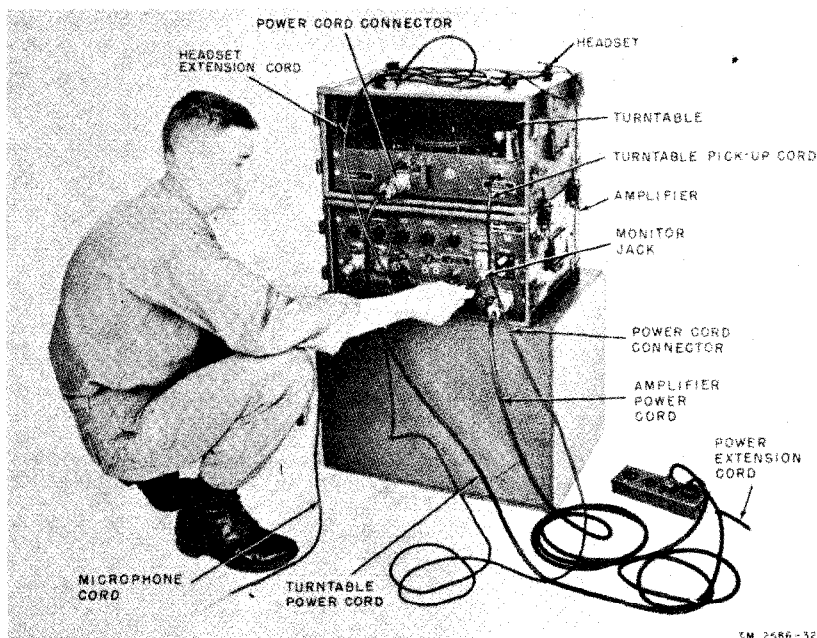

Figure 18. Amplifier and turntable mounted and connected for operation.
d. Connect the end of the microphone cord (or the microphone extension cord (fig. 8 if used)) into the jack on the amplifier control panel marked LOW-IMP-MIC-1 (fig. 18).
f. Insert the plug on the end of the headset extension cord, into the jack on the amplifier panel marked MONITOR (fig. 18).